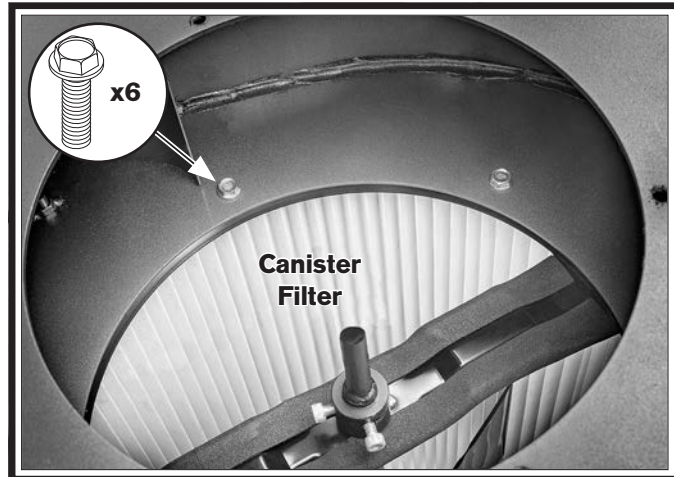

Figure 73. Flange bolts securing canister filter to housing assembly.
8. While assistant supports canister filter, remove (6) flange bolts and canister filter from housing assembly (see **Figure 73**).
10. While assistant supports new canister filter, install to housing assembly with (6) flange bolts removed in **Step 8** (see **Figure 73**).